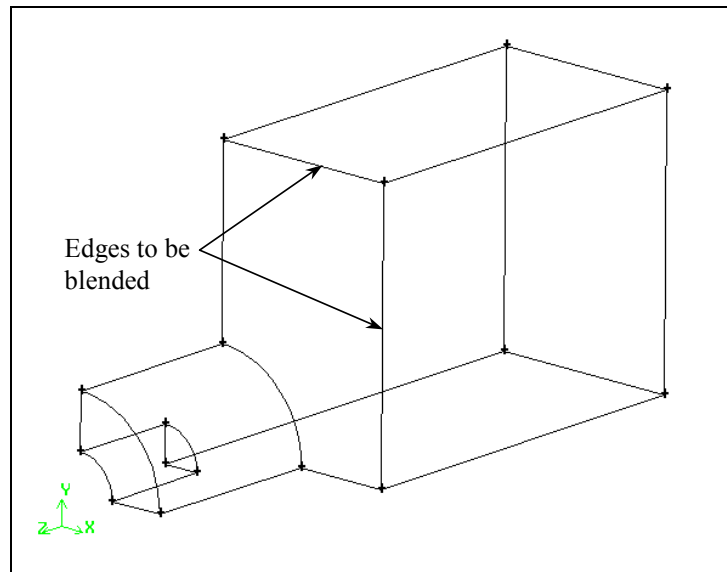

Figure 4-11: Edges to be blended
- i. *Shift*-left-click the two edges to be blended, as shown in Figure 4-11.